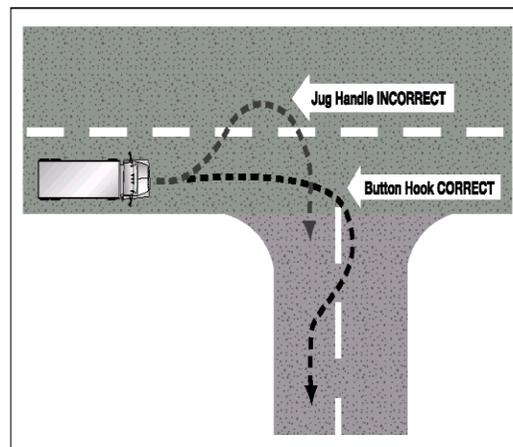

Figure 2.13
- ✓ If you must cross into the oncoming lane to make a turn, watch out for vehicles coming toward you. Give them room to go by or to stop. However, don't back up for them, because you might hit someone behind you. See Figure 2.13.